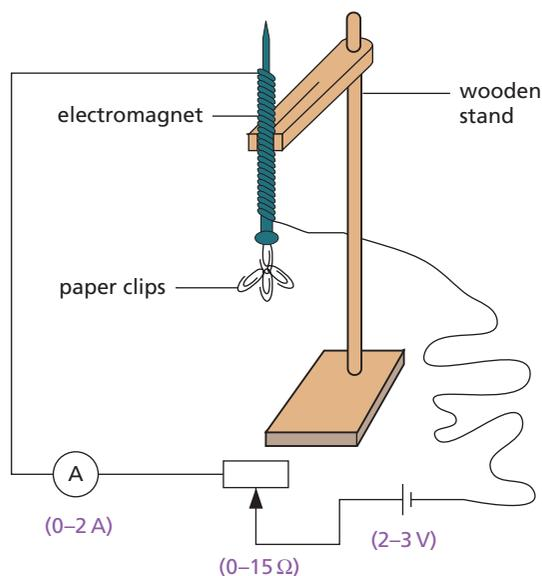

Figure 45.5
- (a) Leave about 25 cm at one end of the wire (for connecting to the circuit) and then wind about 50 cm as a single layer on the nail. **Keep the turns close together and always wind in the same direction.** Connect the circuit of Figure 45.5, setting the rheostat at its maximum resistance. Find the number of paper clips the electromagnet can support when the current is varied between 0.2 A and 2.0 A. Record the results in a table. How does the 'strength' of the electromagnet depend on the current?